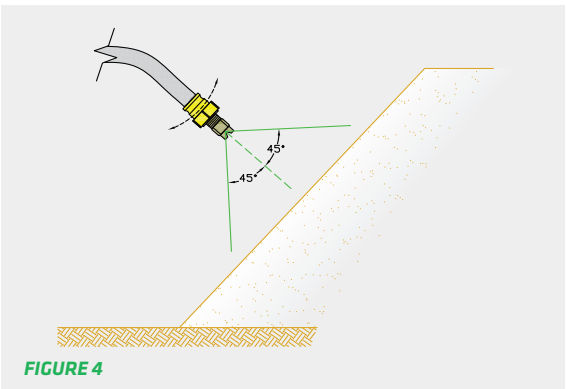

FIGURE 4
5. Position the nozzle perpendicular to the soil surface and spray back and forth, extending 45 degrees from the center (Figure 4).